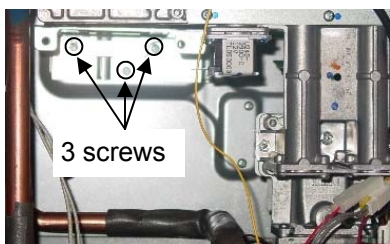

Figure 7
21. Remove 2 screws above the exhaust. Pull assembly from the unit. (Figure 7)